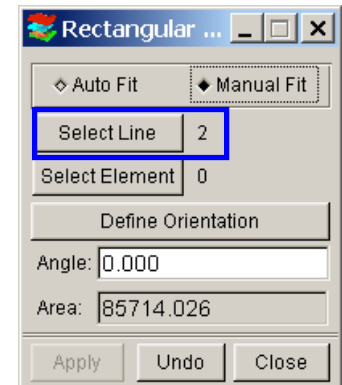

Figure 1.17
- e) Toggle on “Manual Fit” (Figure 1.17)